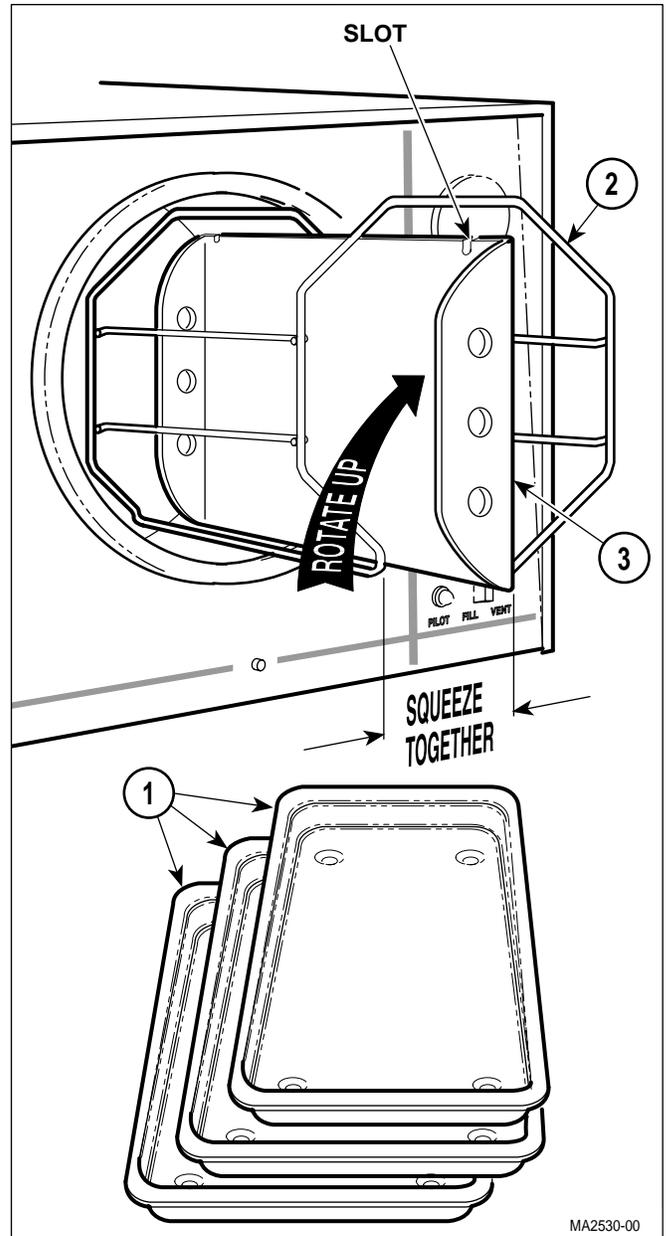

Figure 4-23. Wire Rack And Trays Removal / Installation
- (1) Remove three trays (1, Figure 4-23) from wire rack (2).
- (2) Lift up on left edge of rack base plate (3) until rack base plate "pops" free of wire rack (2).
- (3) While holding rack base plate (3) in a vertical position, squeeze bottom of wire rack (2) together and remove it from chamber.